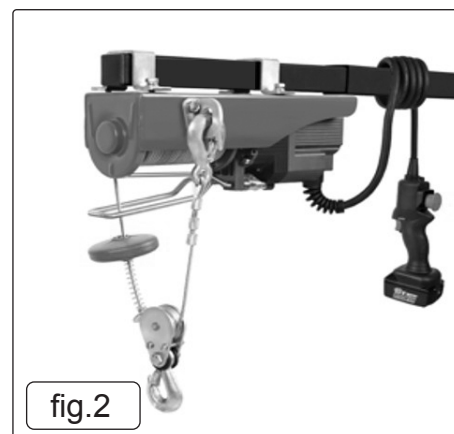

fig.2
**A)** Install the machine on a steel beam. (fig.2) Use only the enclosed installation brackets which can be attached to the top of the mounting casing using the screws, washers, and spring lock washers. The steel beam must be able to withstand at least double the rated lifting capacity of the cable hoist.